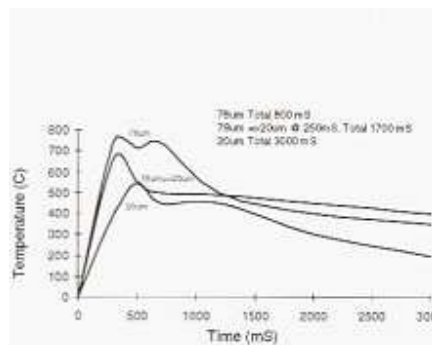

Figure 3.. Weld area temperatures at different amplitudes
In terms of (A), the average heating rate of the polymer is proportional to the amplitude squared. It is possible, therefore, to control the temperature (similar to controlling the barrel temperature in an injection molding machine) by controlling the amplitude. Actual temperatures are seen below at different amplitudes (Figure 3, over).